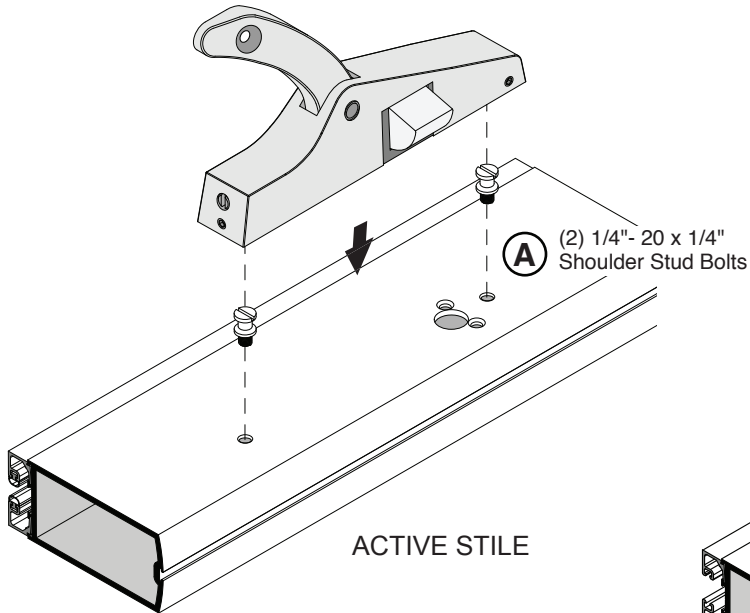

FIG. 6
1. Attach the (2) **(A)** 1/4"- 20 x 1/4" Shoulder Stud Bolts on both Active and Inactive Stiles. (Fig. 6)